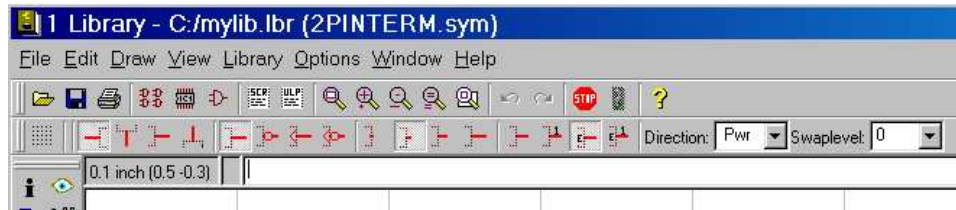

Figure 4.2: Configuration for power pins.
- (b) *Create 2 PINS.* Select **Draw** > **Pin** from the menu bar. Notice the tool bar that appears below the main menu bar; the properties of the pin can be set with this tool bar. The important property is the direction of the pin because it is used in the ERC. For the Power Header configure the tool bar as shown in Figure 4.2. Add